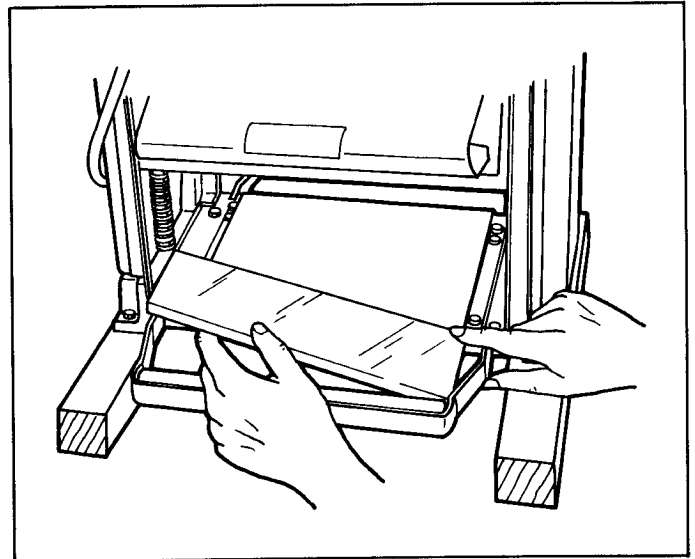

Figure 4
6. Place the outfeed table between the main body of the planer and the outfeed (back) roller (Figure 4) so that its surface is level with the main plate (planer table) and the roller. If the outfeed table is not in place grasping wood as it emerges from the planer may result in finger entrapment between the wood and rear outfeed roller. **SEVERE FINGER INJURY MAY RESULT.**